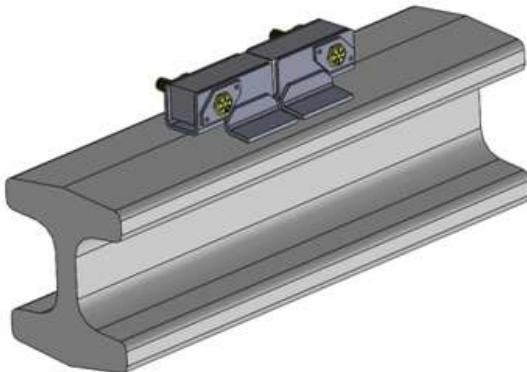

Fig. 3: Bracket assembly centered on axle
1. Place the new bracket assembly at the center of the axle (Fig. 3). Use C clamps to hold the bracket in place. Make sure you leave the alignment tool in the bracket assembly while welding.